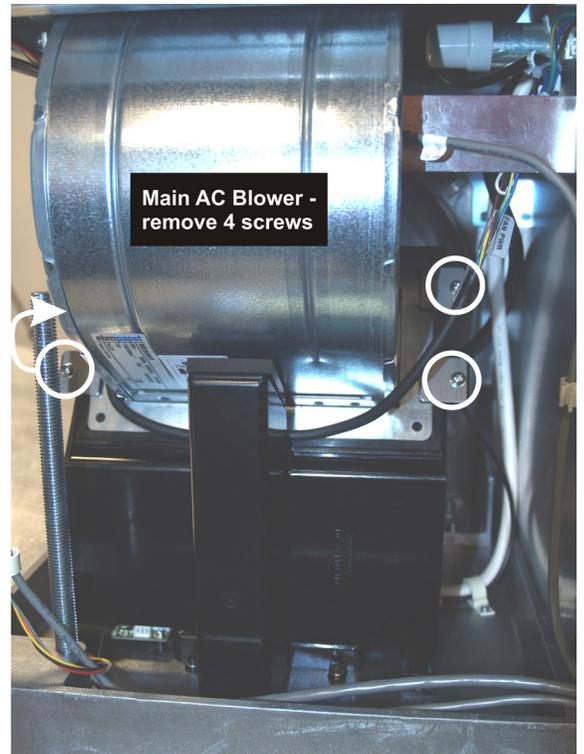

FIGURE 1-25 REMOVE MAIN AC BLOWER
7. Remove 4, #2 Phillips screws (and spacers) securing the fan to its mounting bracket. (Figure 1-25)